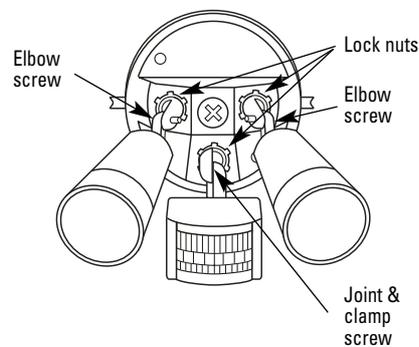

Fig. 7
- A. Adjust the direction of the sensor arm and lampholders to suit the desired detection area. Loosen lock nuts and elbow screws on lampholder before making any adjustments. Do not use excessive force when making adjustments to lampholders (See Fig. 7).